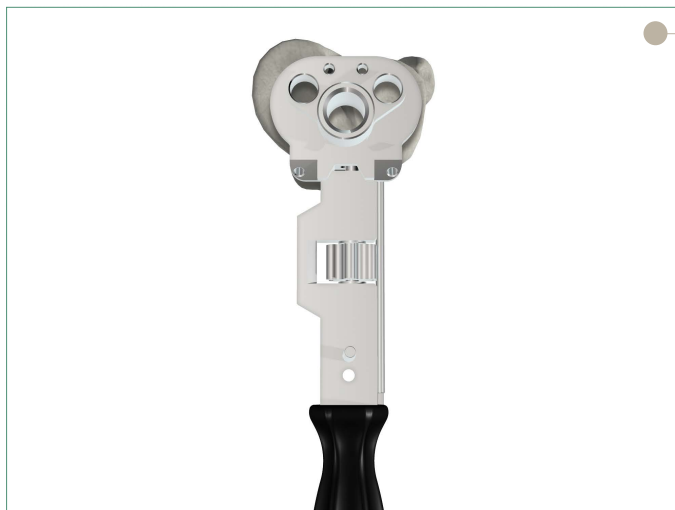

Figure 19
- ▶ Rotational alignment is correct when the drill bit placed in a hole from the tibial resection step is parallel to the handle (**Figure 19**). Varus/Valgus and flexion/extension is verified with a Long Alignment Pin.